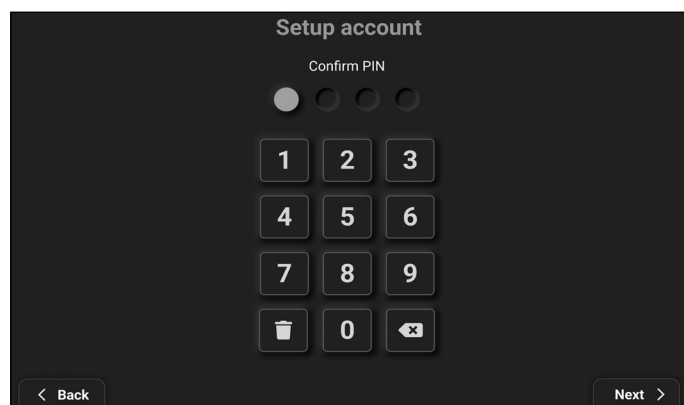

Figure 17
6. Confirm your new PIN (**Fig. 17**).